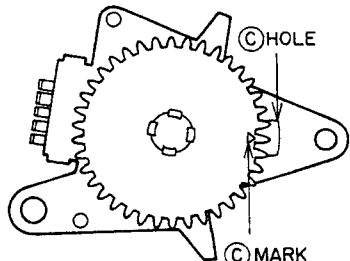

Fig. 3-14
- 1) Set the MODE SELECT SWITCH's gear, so that the ④ mark is in the center of the ④ hole as shown in Fig. 3-14.